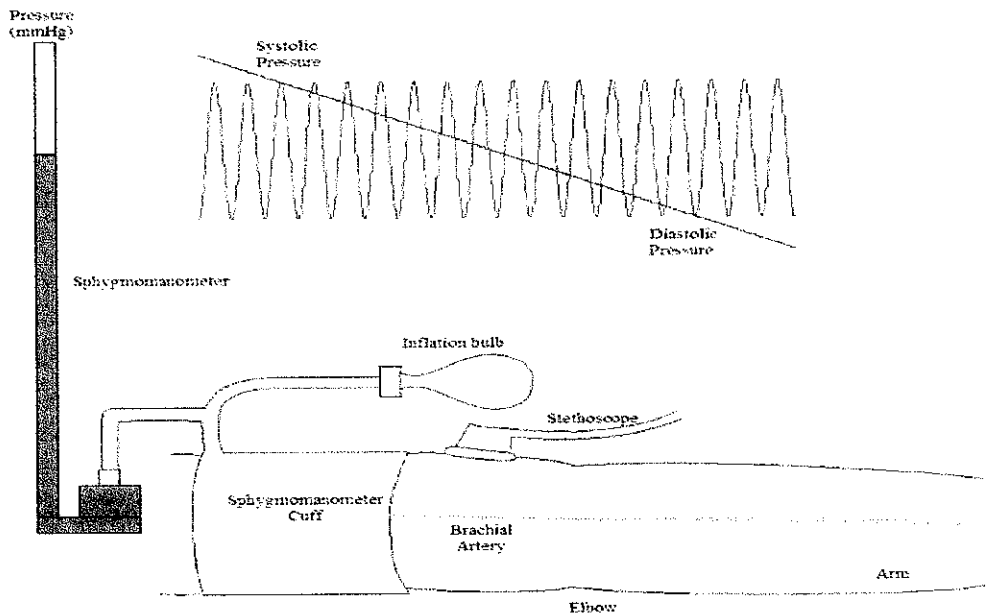

Figure 2: Standard Blood Pressure Measurement Setup.
- Figure 2:** Standard Blood Pressure Measurement Setup